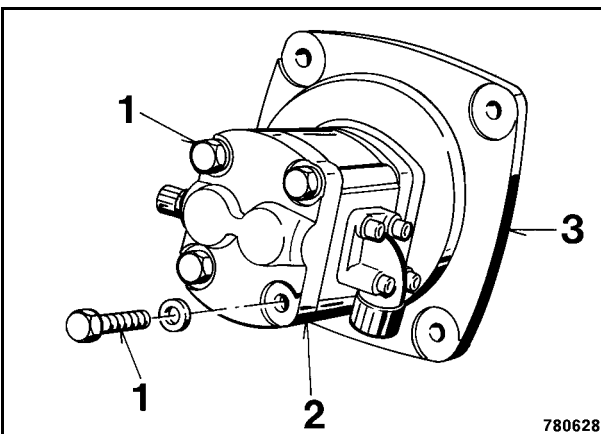

Fig. 17
23. Fasten the vibration motor 2 (Fig. 17) to the flange (3) with fastening screws (1).